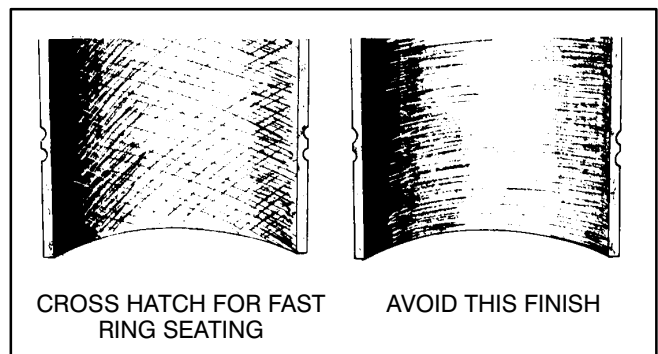

FIGURE 9-21. CROSSHATCHING
3. Drive the deglazing tool with a slow speed drill. Move the deglazing tool up and down in the cylinder rapidly enough to obtain a crosshatch pattern (Figure 9-21).